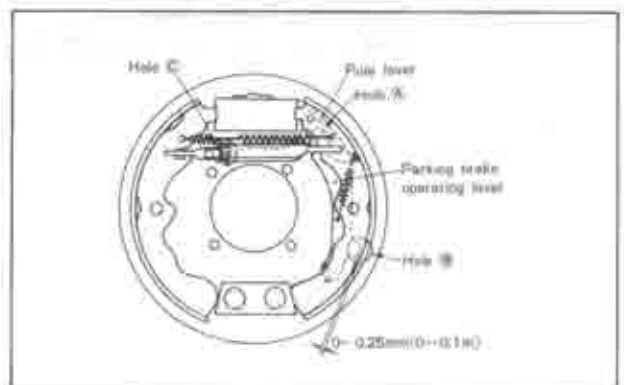

Fig. 11-4 Checking clearance
ance between the parking brake operating lever and shoe through the hole (B), as shown in Fig. 11-4. The clearance should be 0 ~ 2.5 mm (0 ~ 0.1 in).